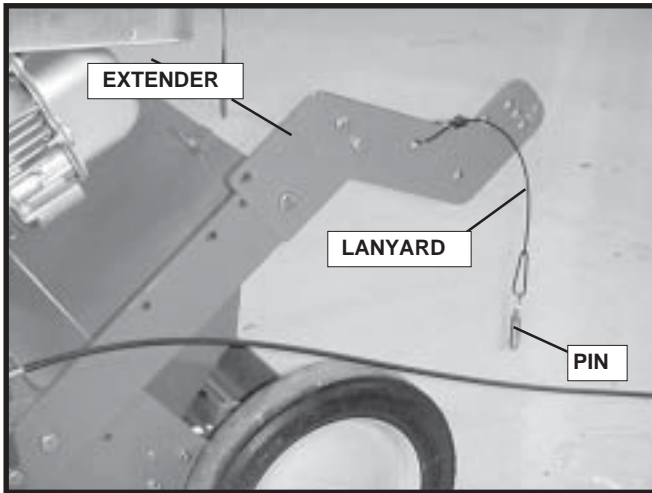

FIGURE 6
17. Install two extenders on the outside of the lower handle assembly. Attach the lanyards with pins to the extenders as shown in Figure 6.